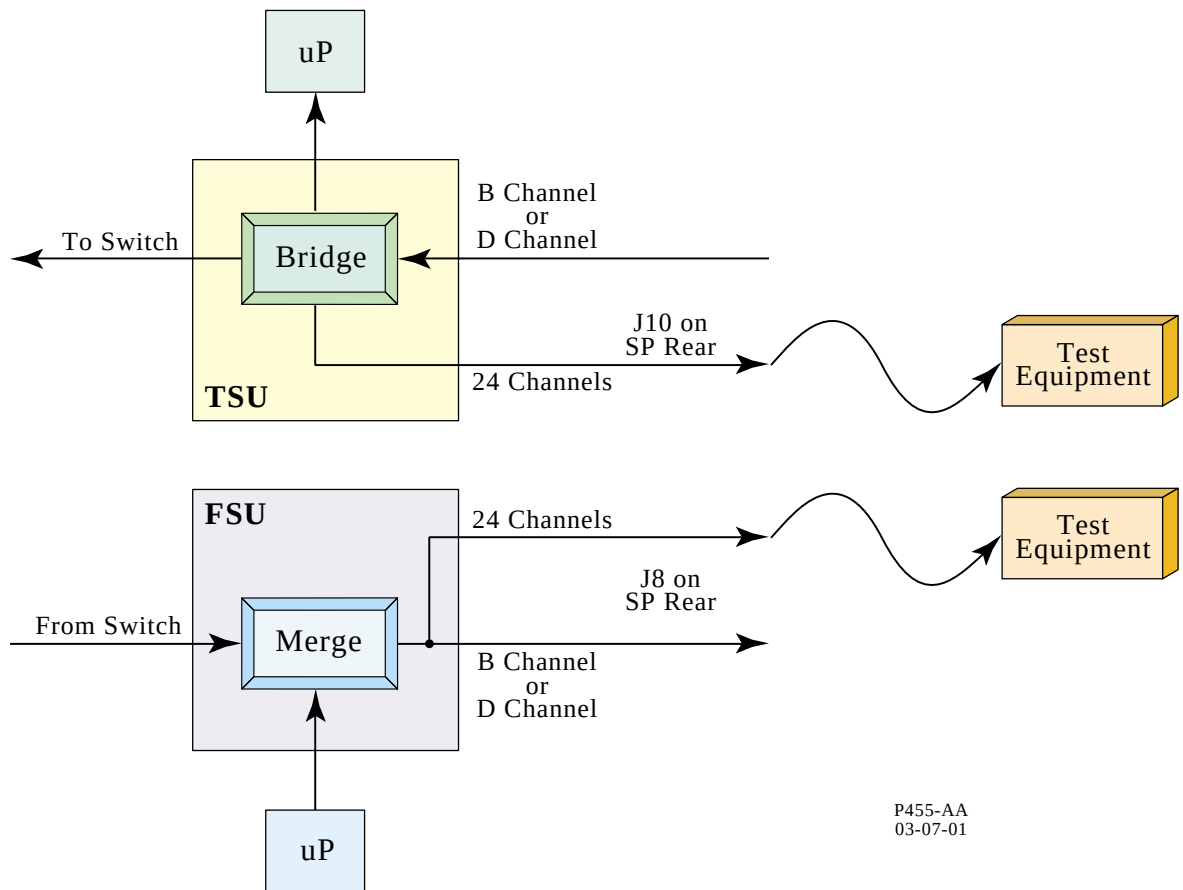
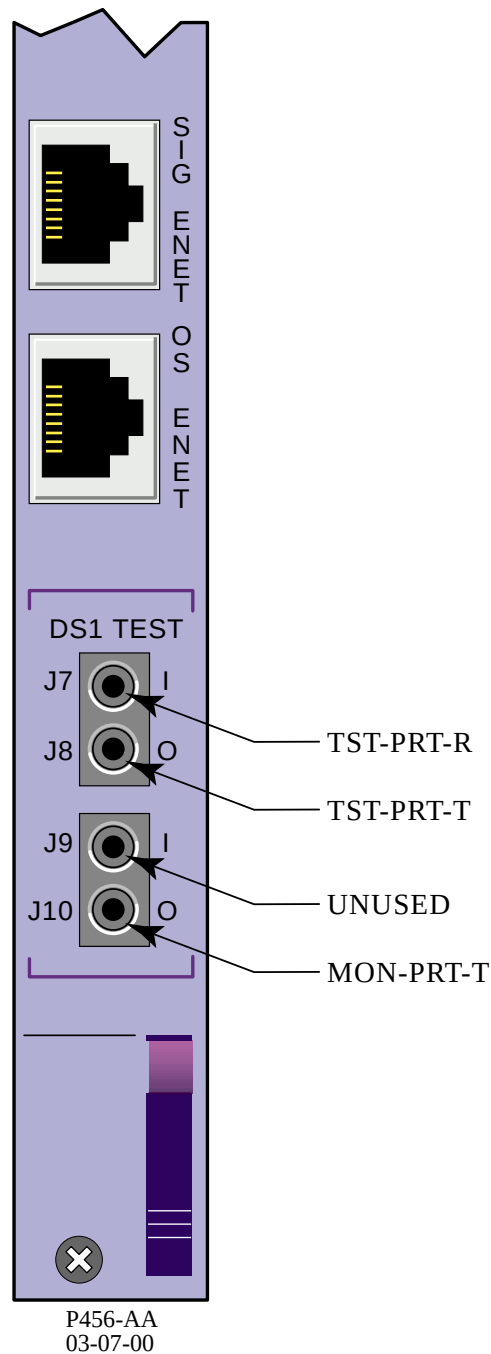

**Figure 4. Monitoring Using the SP Monitor Jacks**
**Figure 5. Test Jacks on SP**
16. Connect the DS1 test patch cables to the appropriate monitor jack(s) on the rear System Processor and at the test equipment. Refer to Figure 4 for an illustration of how the jacks are used and to Figure 5 for location of jacks on rear SP cards.